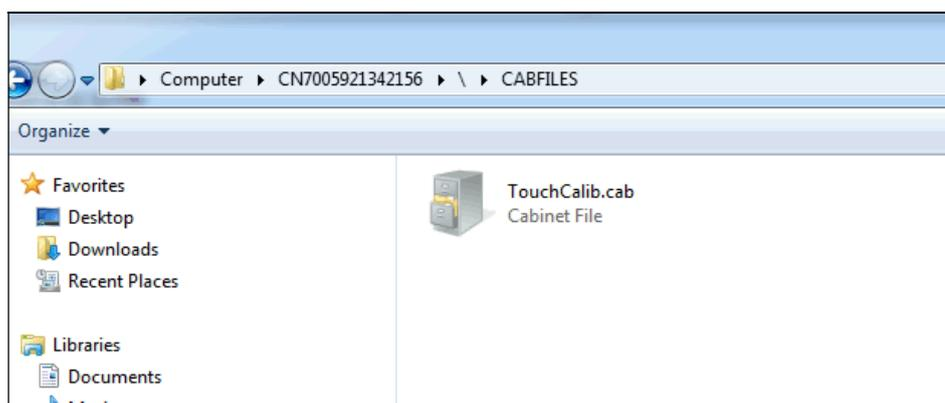

Figure 1. Paste file in device’s \CABFILES folder
2. Browse the device and place the “TouchCalib.cab” file in the device’s \CABFILES folder. [Figure 1]